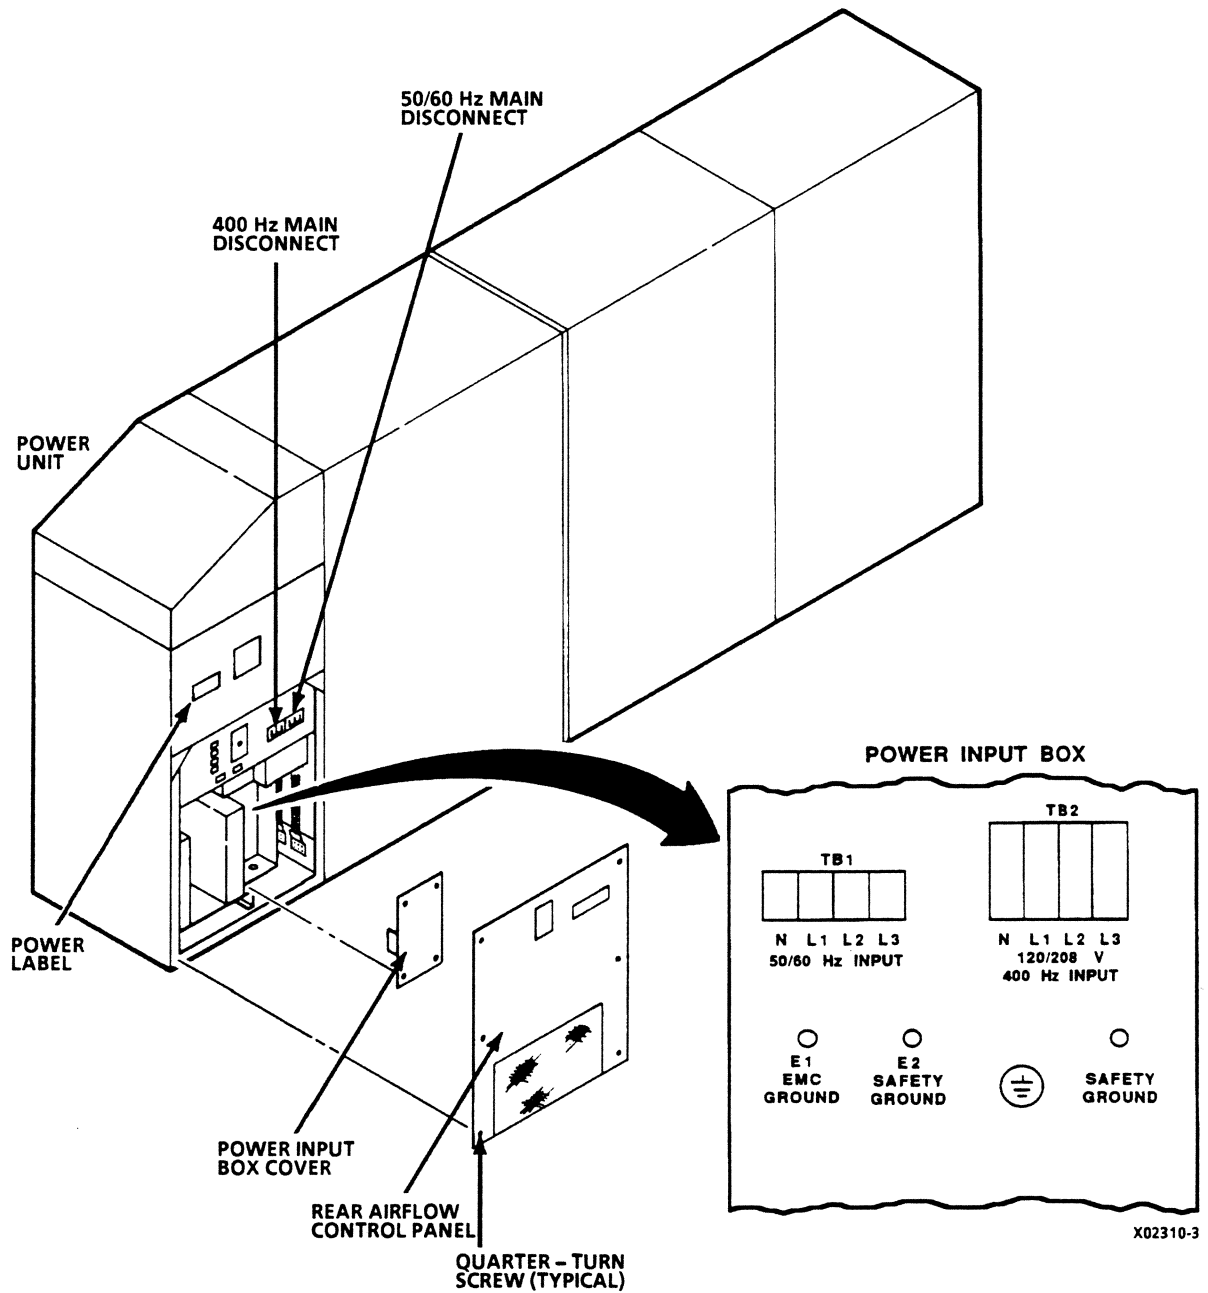

Figure 2-58. Power Connections to Power Unit
- ___ b. Remove power input box cover (figure 2-58). Install cover in a later procedure.